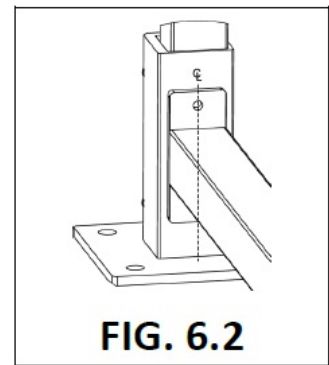

FIG. 6.2
7. If you want the barrier to be 4" above the walking surface, center the attachment plate horizontally on the post base pockets and hold the assembled barrier at 3/4" below the top of the post base pocket (FIG. 6.2).